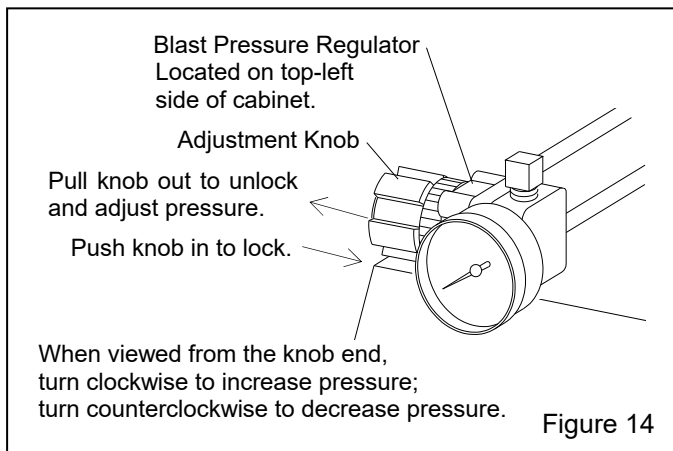

Figure 14
5.1 Blasting Pressure (pilot regulator) – Figure 14
5.1.2 To adjust pressure, unlock the knob by pulling it out, as shown in Figure 14, and turn it clockwise to increase pressure or counterclockwise to decrease pressure. Pressure may drop slightly from closed-line pressure when blasting starts. Once operating pressure is set, push the knob to lock it and maintain the setting.